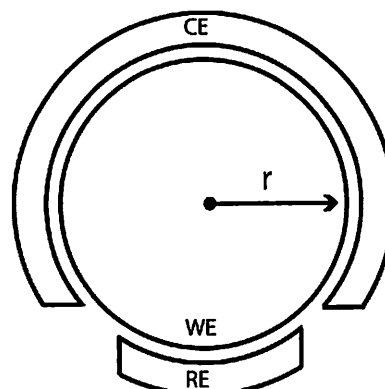

Figure 3.1
- b) A glucose sensor has been fabricated with a circular disc working electrode shown in Figure 3.1. The radius of the disc,  $r=0.1\text{mm}$ . The electrode is coated with glucose oxidase to give a peak current to glucose at  $V_{\text{cell}}=0.7\text{ V}$  according to the following reaction:
- (ii) Draw a circuit schematic of a suitable potentiostat to drive the electrochemical cell shown in Figure 3.1. [2]
- (iii) Using the results from b.i, design a system comprising of a potentiostat, a transimpedance amplifier and a resistor that will operate the sensor in Figure 3.1 using a single 3V supply. Choose a suitable resistor value for the transimpedance amplifier which utilises the full dynamic range of the system at a glucose concentration of 20mM. Annotate clearly the values of any input and output voltages. [6]